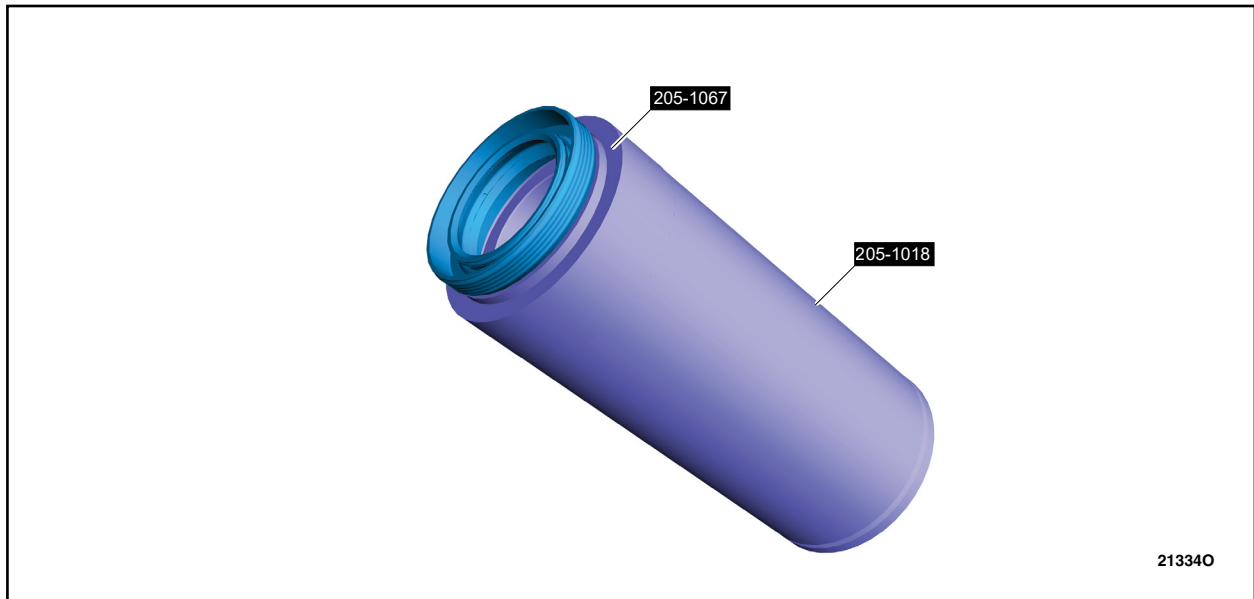

FIGURE 14
25. Use Special Service Tool (205-1018 Installation Tube, 205-1067 Installer), to install the special tool to the seal. See Figure 14.